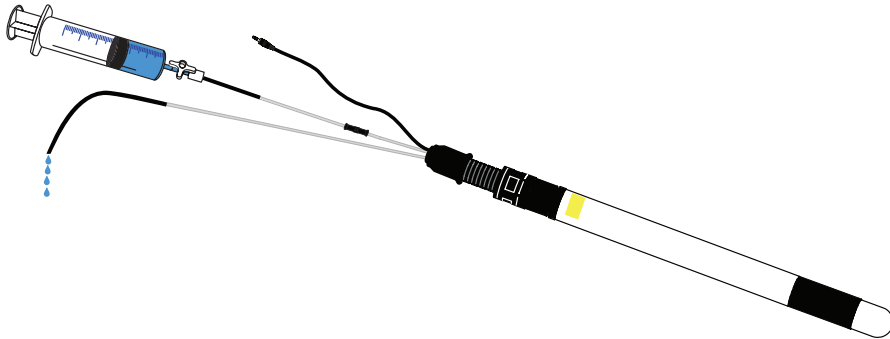

Figure 15 TERSO 32 refilling
9. For a downward installation, connect the syringe to the marked refilling tube from TEROS 32 (Figure 15).
Continue to push the water into the sensor until only water comes out of the other refilling tube (Figure 15).